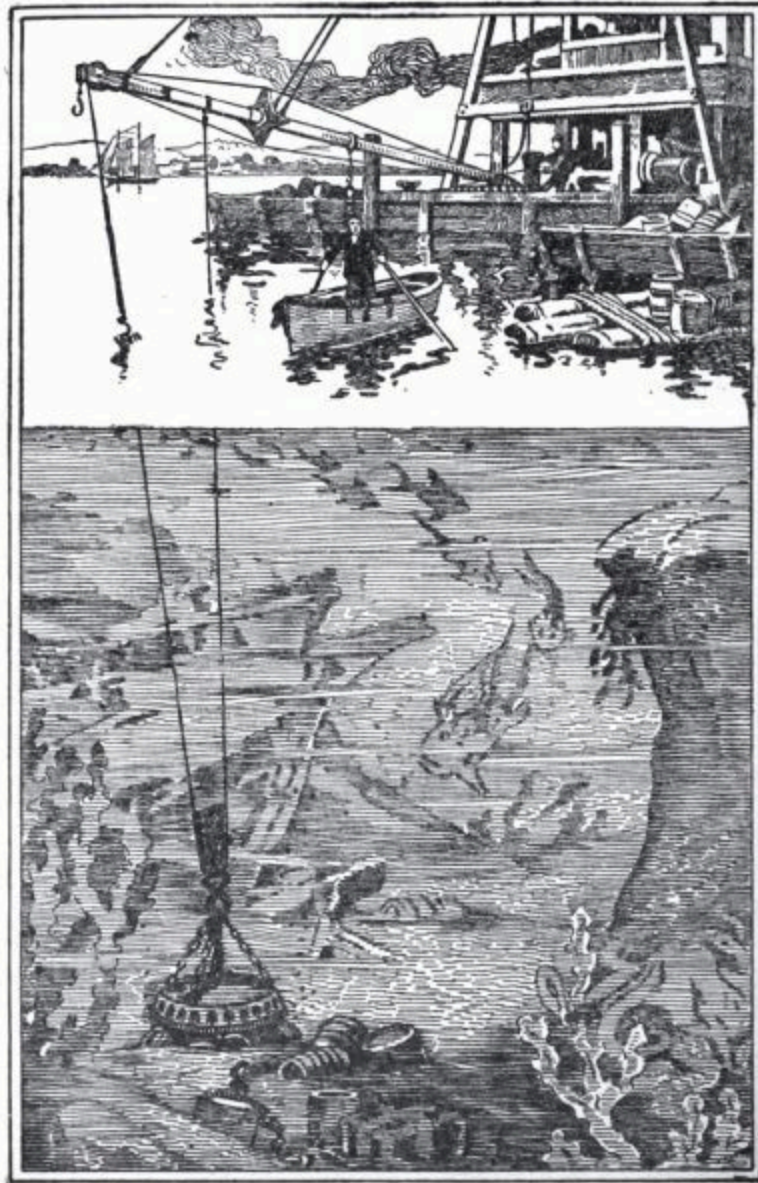

Fig. 48
18. *Lifting Magnets.*—Electro-magnets are made for use with hoisting apparatus to save the trouble of manipulating grappling hooks, etc. They may lift barrels and boxes of iron, the wood of the barrel or box being transparent, we say, to the magnetic influence. That is, the magnet will attract iron through the wood just as light will shine through glass. Such magnets are used to pick up from the bottom of the sea cases of hardware from wrecked ships. (See the accompanying illustration, Fig. 48.) In such cases the electric conductors which lead to and encircle the magnets must